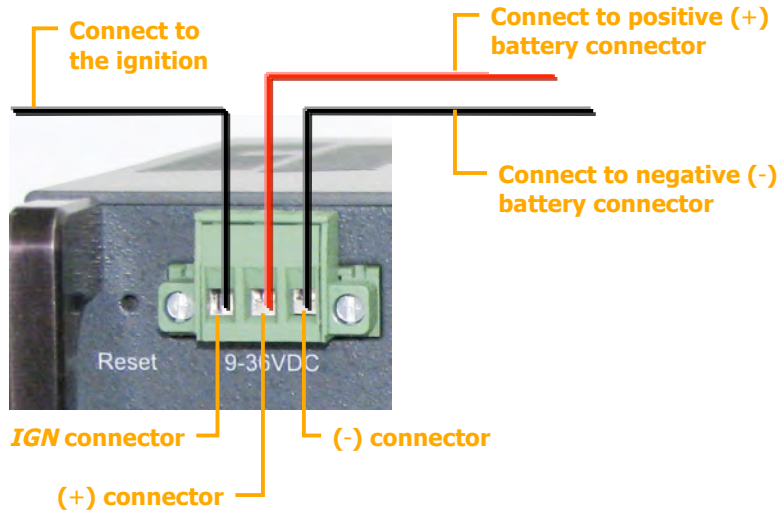
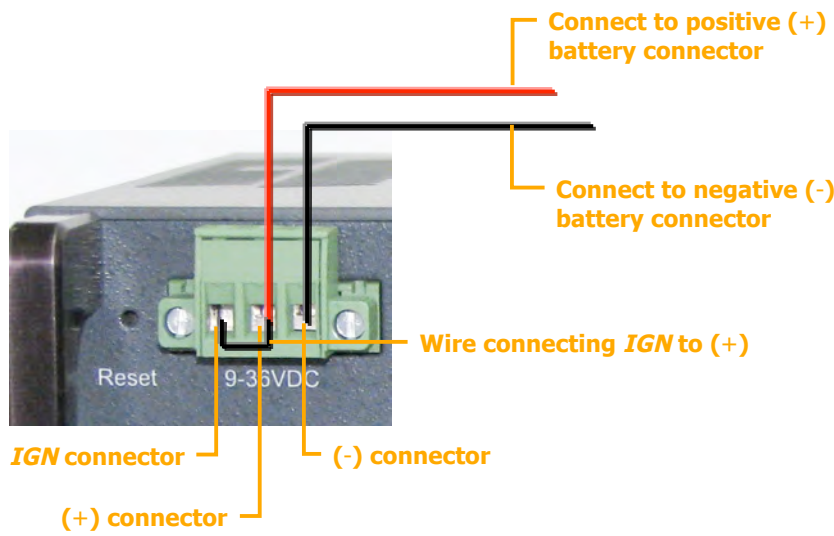

Figure 27: Connecting the MVG to the vehicle battery and the ignition
Figure 28: Connecting the IGN connector to the (+) connector when a connection to the ignition is not required
5. If you need to connect the unit to the ignition, using 16 AWG black cable, connect the **IGN** connector to the ignition, as illustrated in figure 27. If you do not need to connect the unit to the ignition, using 16 AWG black cable, connect the **IGN** connector to the positive (+) connector of the **Power** connector (the middle connector in the block), as illustrated in figure 28.